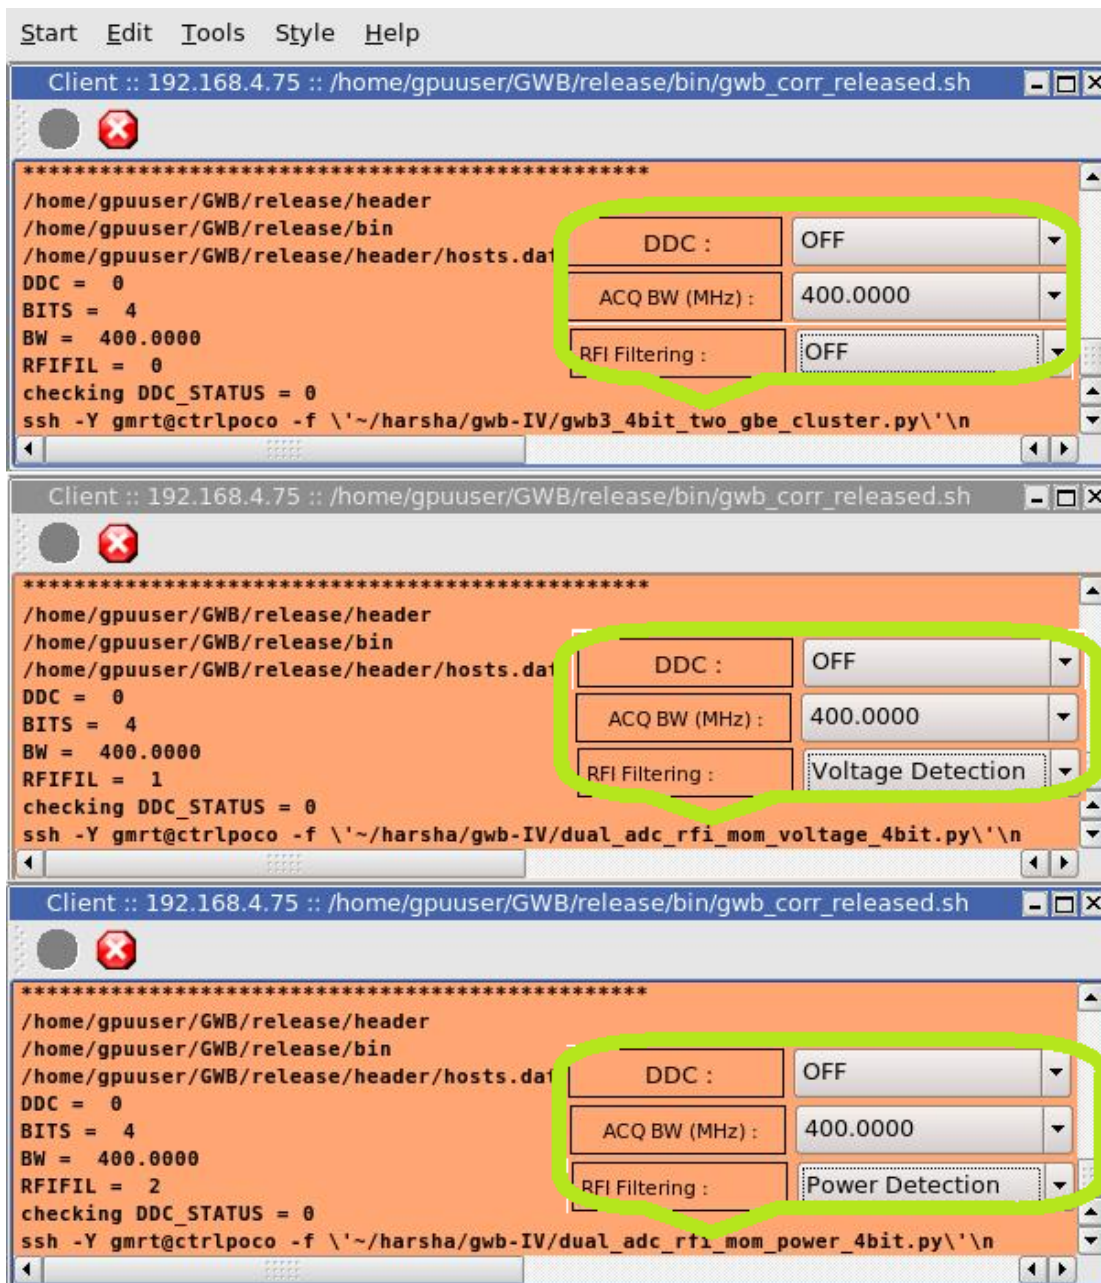

Fig. 4
1. In case of running GWB-IV without RFI Filtering RFIFIL is 0 and the default python script (gwb3\_4bit\_two\_gbe\_cluster.py) is running for 400MHz Bandwidth. (is highlighted by light green color rectangle in figure 4)
2. In case of running GWB-IV with RFI Filtering (Voltage Detection) RFIFIL is 1 and the python script (dual\_adc\_rfi\_mom\_voltage\_4bit.py) is running (is highlighted by light green color rectangle in figure 4)
3. In case of running GWB-IV with RFI Filtering (Power Detection), RFIFIL is 2 and the python script (dual\_adc\_rfi\_mom\_power\_4bit.py) is running (is highlighted by light green color rectangle in figure 4)